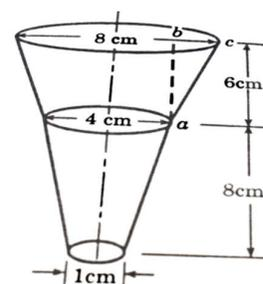

Fig. 12.14
- (ii) Estimate the cost of metal sheet for preparing a funnel as shown in Fig. 12.14. Assume the wastage of metal as 15% and cost of the sheet as Rs.45/m2.